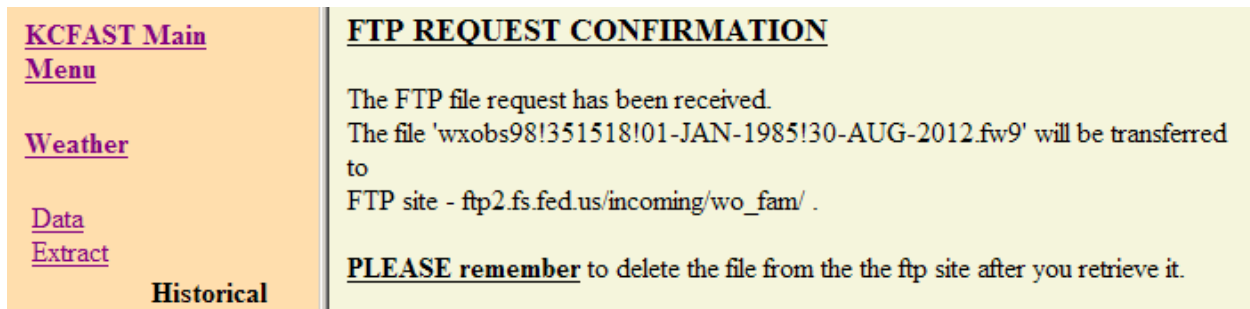

Figure 3-5—File name and ftp site window.
- vi) Click **Submit** and a new window will open noting the file name and the ftp address where the data will be placed (fig. 3-5). You may want to write down the file name and the ftp so you can reference it later. You will retrieve all the data at once in **Step 2**.
- vi) Click **Submit** and a new window will open noting the file name and the ftp address where the data will be placed (see fig. 3-5 for an example). Again, take note of the file name and the ftp. You will retrieve all the data at once in **Step 2**.
- v) Click **Submit** and a new window will open noting the file name and the ftp address where the data will be placed (see fig. 3-5 for an example). Again, take note of the file name and the ftp. You will retrieve all the data at once in **Step 2**.